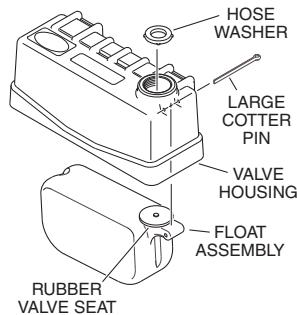

Figure 1
2. Position the float assembly inside the valve housing and slide the large 2-1/4" cotter pin through the housing and the float assembly (see Figure 1). Spread the ends of the large cotter pin open slightly with pliers. When properly installed, the float assembly should pivot freely on the cotter pin inside the valve housing.